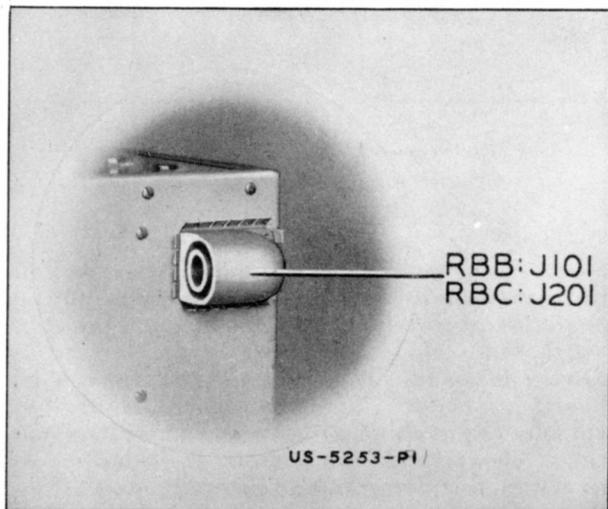

Figure 1-7 — Models RBB/RBC Radio Receivers (Rear Section Showing J101 or J201)
the rear of the preselector unit (see Figure 1-7). This jack connects to the terminal board TB-7 (E105; RBB) or TB-6 (E209; RBC) which has link connectors for adapting conditions shown in Figure 2-4.
(12) A shielded compartment is located on the top of the chassis in the left rear corner. This compartment encloses the input circuits and first r-f tube (V101 or V201). A removable cover, fastened with captive thumbscrews, is provided for access to the enclosed parts. The antenna connection is brought into this compartment through a jack (J101 or J201) located at the rear of the preselector unit (see Figure 1-7). A small terminal board TB-7 (E105; RBB) or TB-6 (E209; RBC), located in this compartment, provides a means of changing the input circuit connections as required for antenna input, line input, or common operation of more than one receiver on an